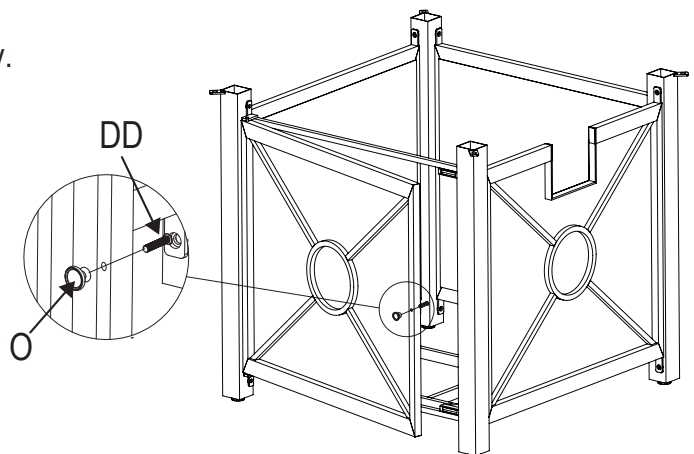

Figure 8
8. Attach door handle (O) with bolt (DD), then use phillips screw driver (not included) to screw tightly (see Figure 8).